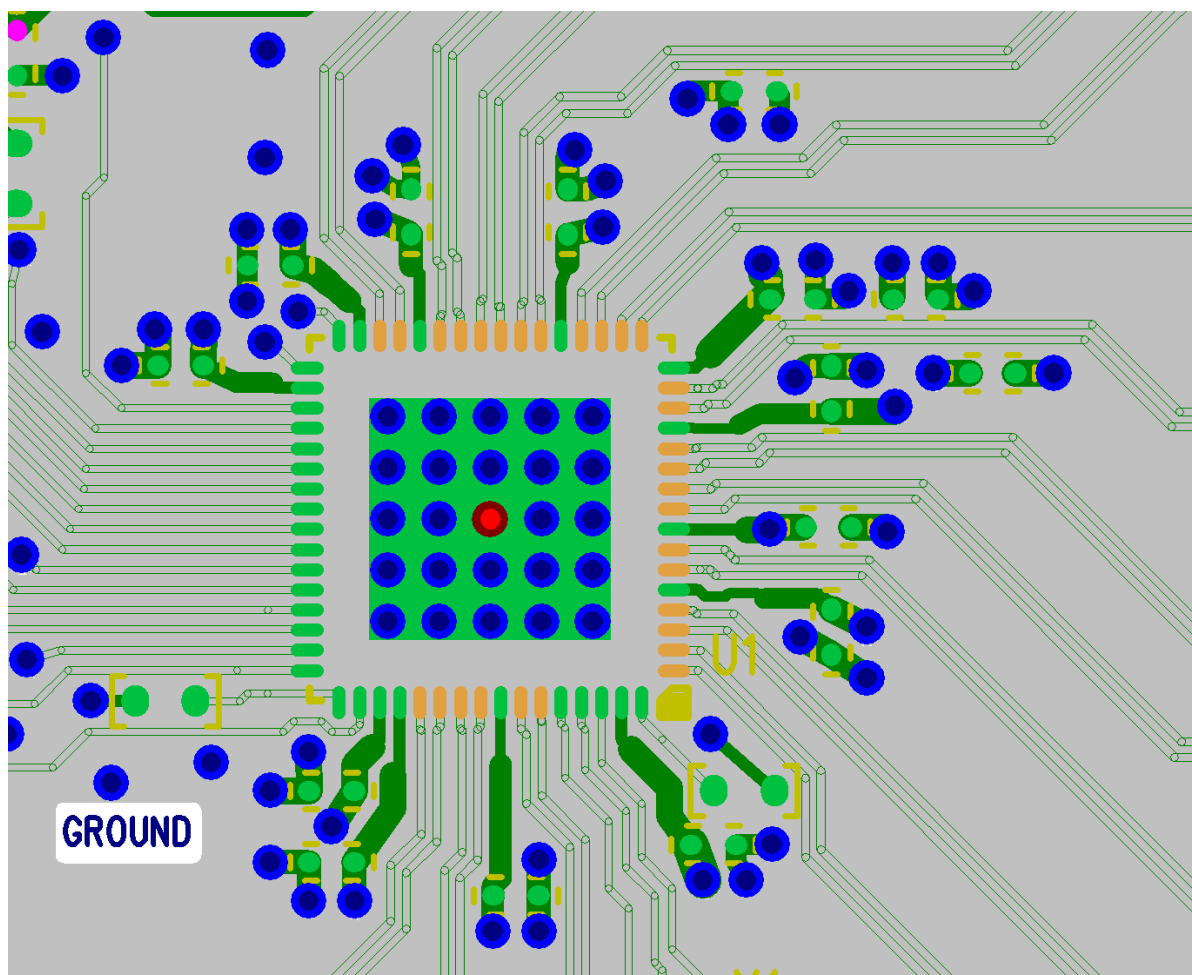

Figure 3.2 Example GROUND on Plane Layer 3 with Via Field in Flag Pad
- Fill the flag pad with a field of vias (See Figure 3.2).